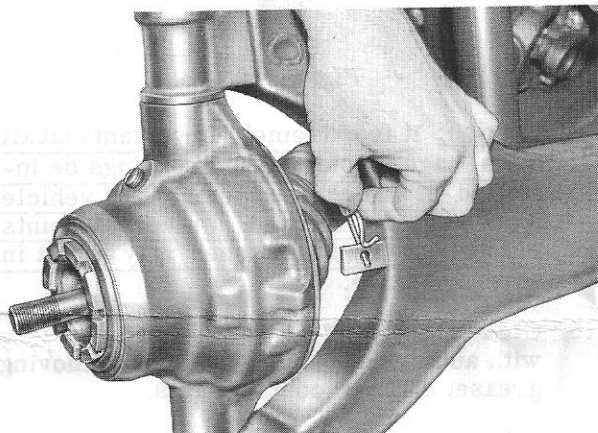

Figure 10.
- Remove boot sleeve anchor (spring wire pin) (fig. 10).